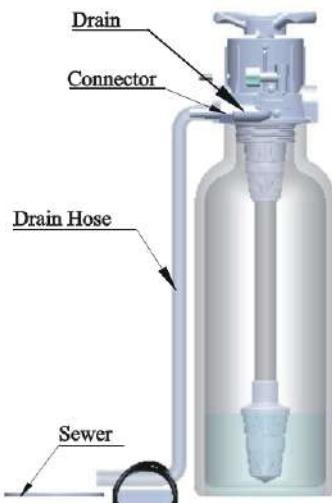

Figure1-3
③Install drain pipeline
- Be sure not connect drain with sewer, and leave a certain space between them, avoid wastewater be absorbed to the water treatment equipment, such as showed in the Figure1-3.